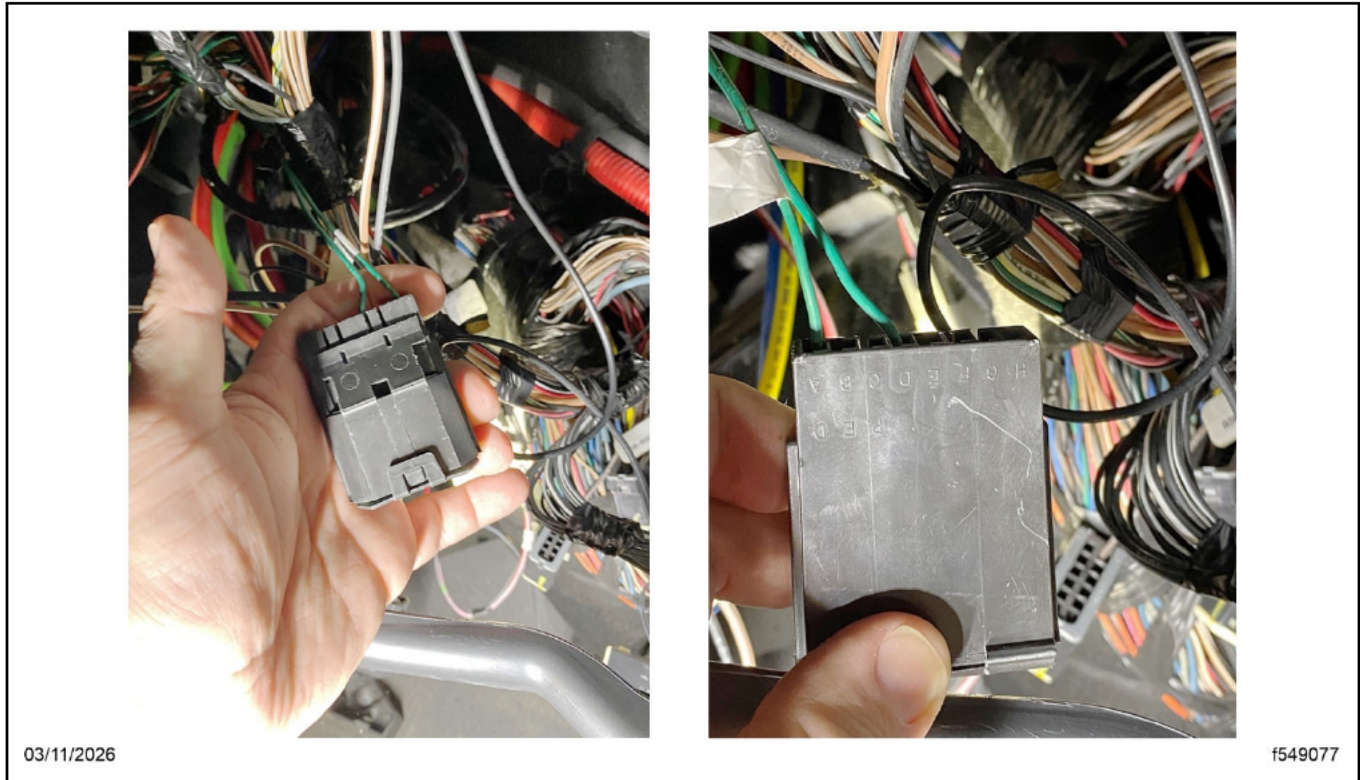

Fig. 2, Locating the Splice Packs
7. Locate the splice packs containing the green wires. See Fig. 2.